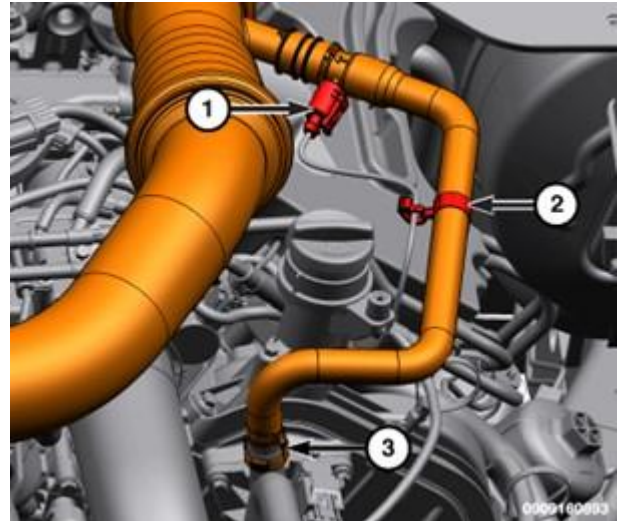

Figure 76 – CCV Harness Retainer and Connector
129. Attach the Closed Crankcase Heater Ventilation (CCV) heater wire harness retainer (2) (Figure 76).